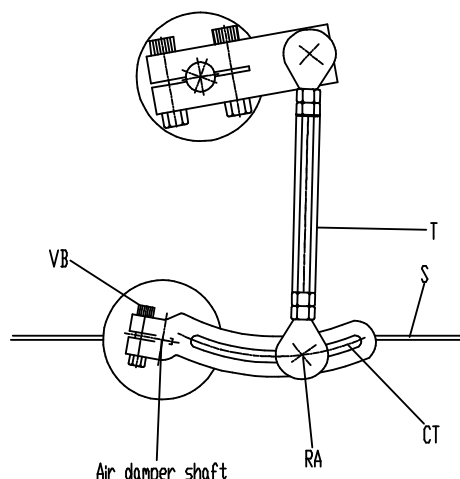

Fig. 8-11. Adjustment of Air Flow
- (q) In case that the movement of the air damper is too small move the joint Of the position "RA" shown in Fig. 8-11. toward the shaft of air damper.